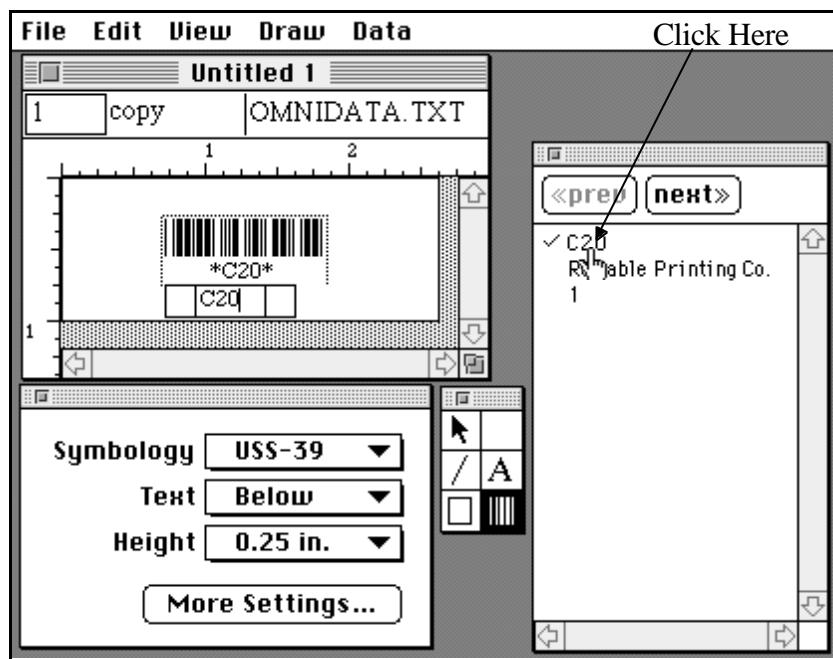

Figure 2-18 Selecting a Data Field From the Data Palette
9. Click on the first data field in the data palette. The program automatically creates a bar code object in the work area. See Figure 2-18.